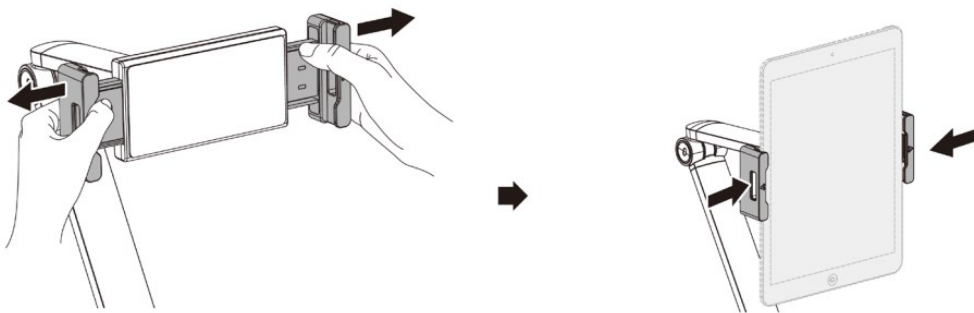

Figure 1
3. Slide Inwards the remaining Holder to secure the Table in place. **Figure 1.**